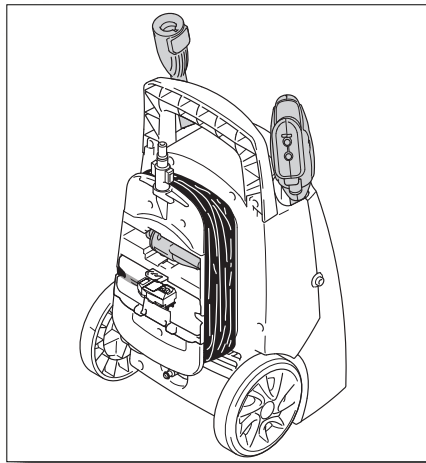

Fig. 25
- Place accessories in compartments built into the power washer. **(Fig. 25)**